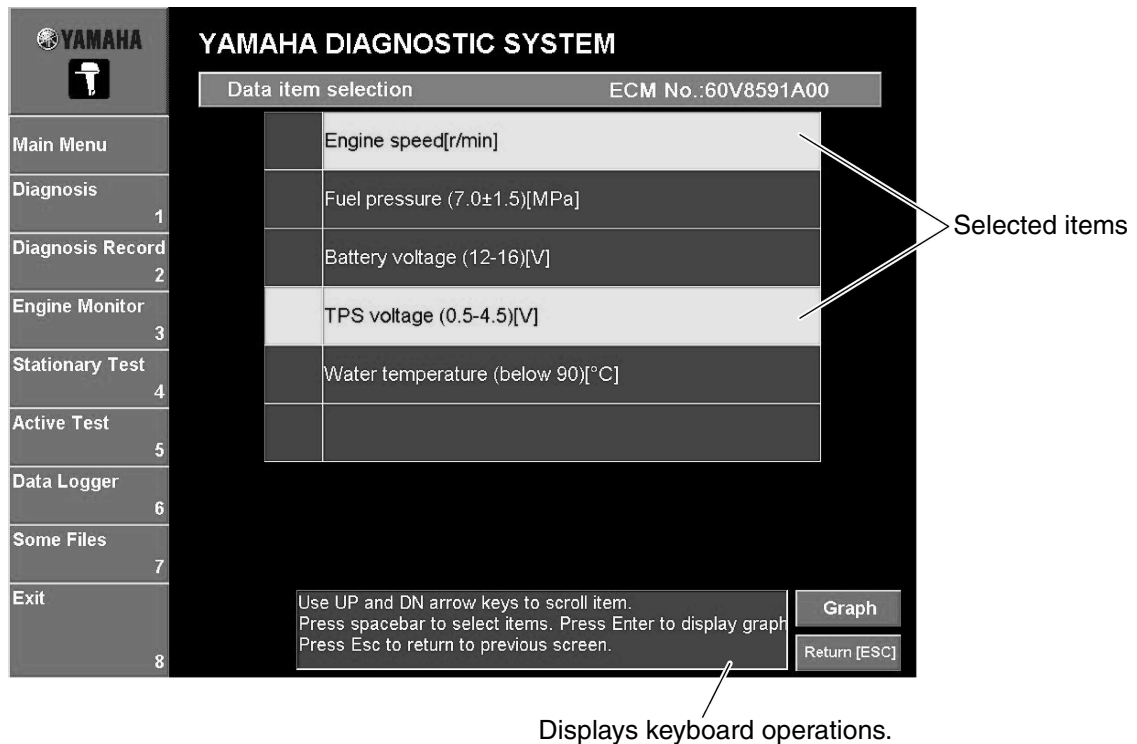

Fig. 63
1. Select the desired items by either clicking them or pressing the up or down arrow keys on your keyboard, and then press the space bar. (Fig. 63)
2. Click the **Graph** button or press the Enter key on your keyboard. (Fig. 63) The **Data comparison** window is displayed.